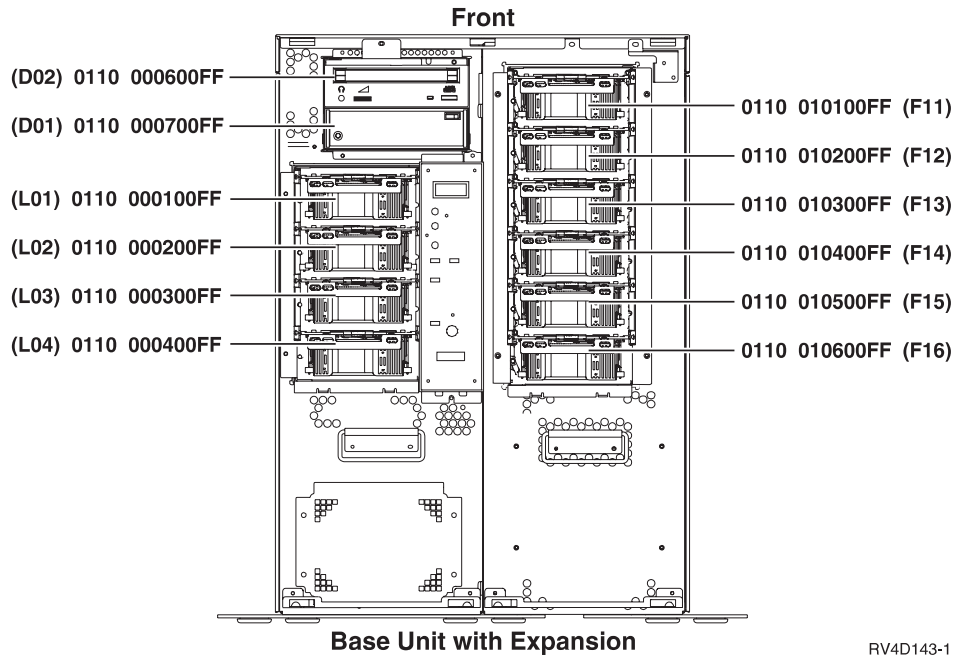

Figure 5. Disk Unit Direct Select Addresses
- \_\_\_ 7. On the *Device Concurrent Maintenance* display, type the *Direct Select Address* of the position where you will be installing the new disk unit. See Figure 5 on page 6 for the direct select addresses.